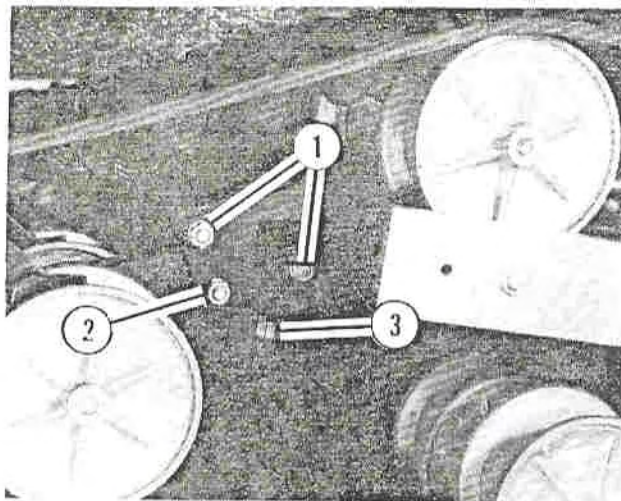

Fig. 1
2. Raise the vehicle off the floor. Loosen and remove the screws securing the rear bogie wheel units and swing the wheels down to provide slack in the track (Figures 1 and 2).